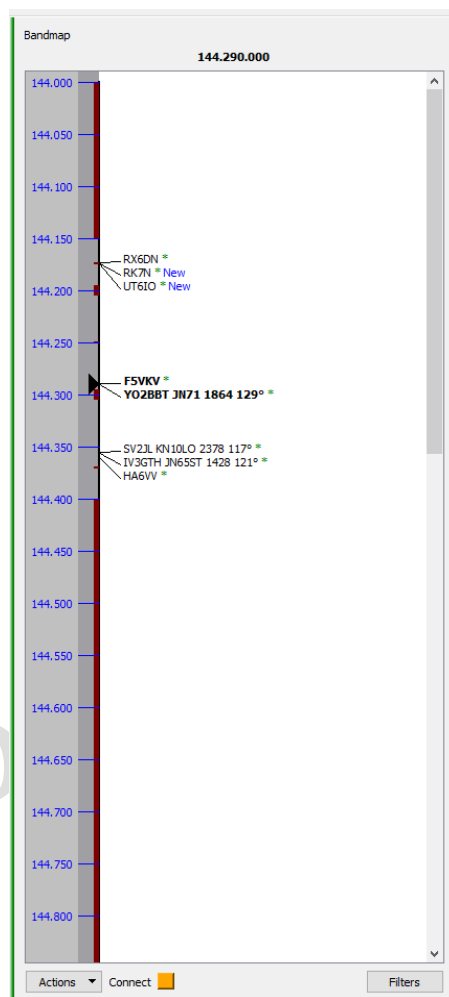

Figure 114 – Bandmap display
An example display is shown in Figure 114. The frequency scale on the left of the panel will not contain frequency markers until the rig is connected. Once the rig has been connected and the frequency scale has been set up it will be retained even if the rig is disconnected or the band changed.
- The current rig frequency is indicated by the black 'play' symbol (on 144.290 in Figure 114). If this symbol turns red it indicates that the current mode does not match the bandplan for this frequency.
- If the dial cursor is not viewable, click the dial frequency at the top of the panel (144.290 at top of Figure 114) to bring that frequency back into the viewport.